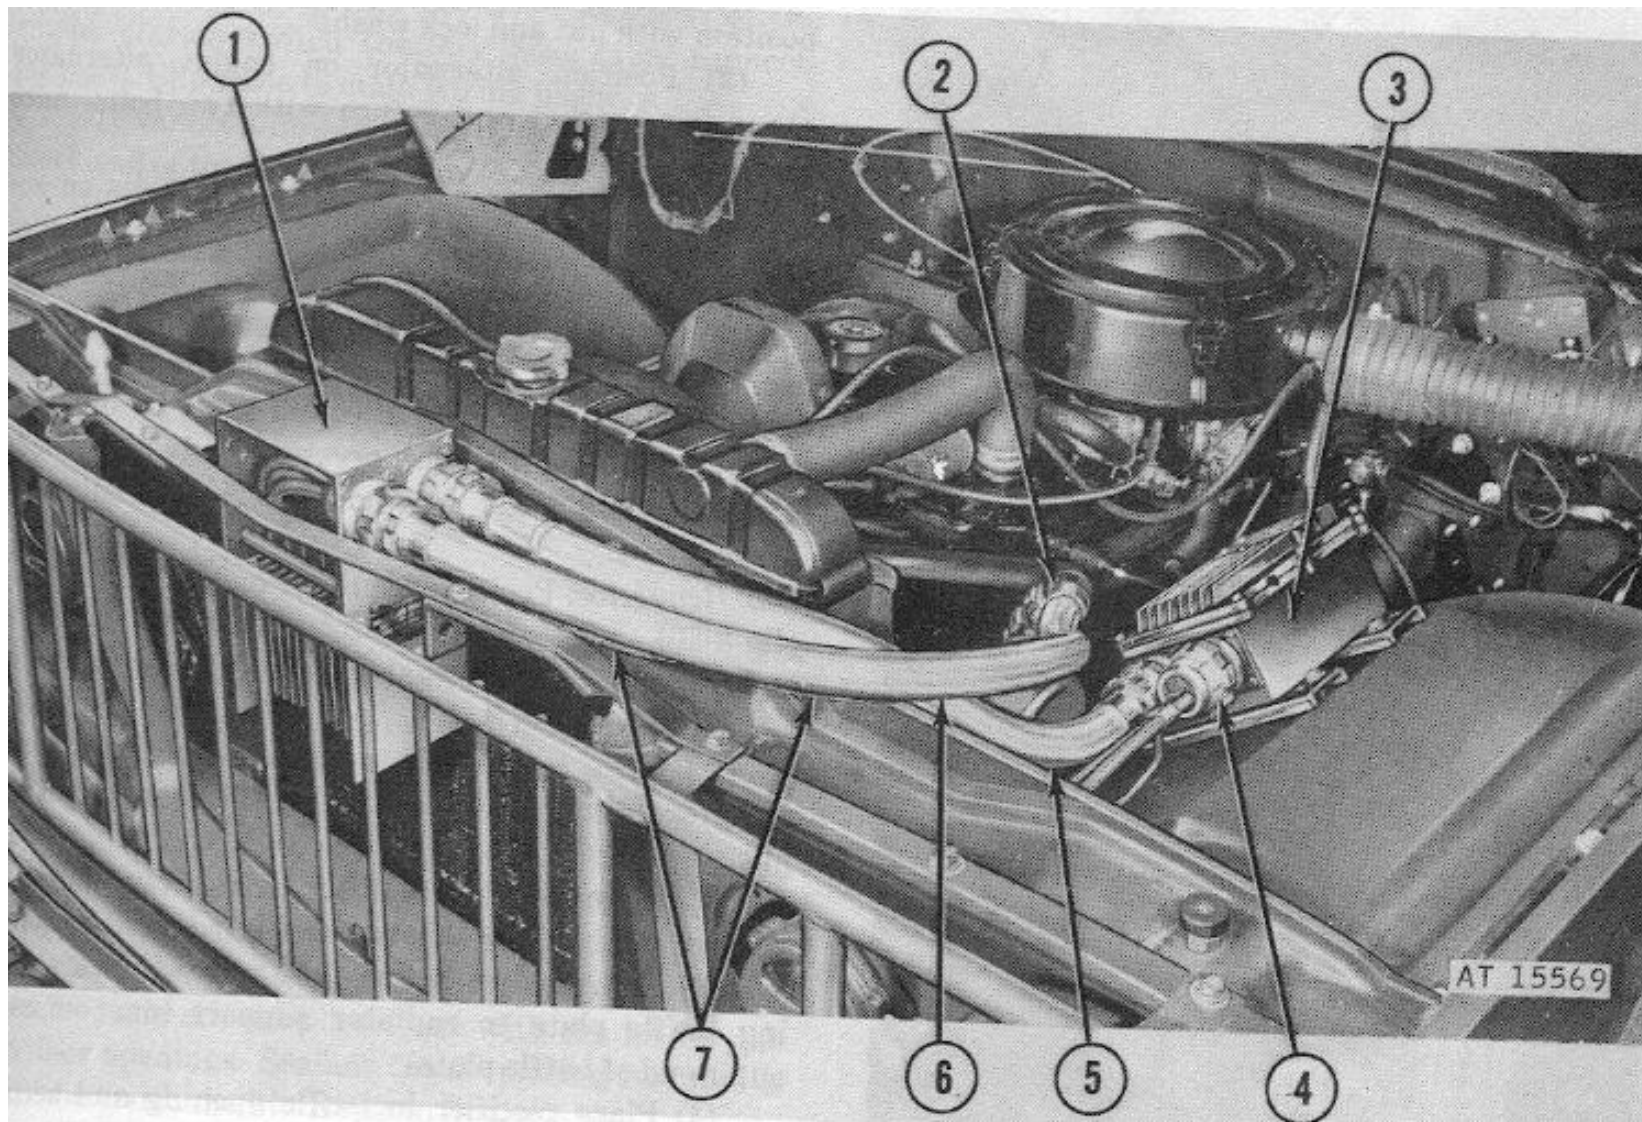

Figure 3-9. Wiring harnesses.
a. Wiring Harnesses, (Fig 3-9)
- (1) Disconnect battery ground cable from battery negative post.
- (2) Disconnect the long shielded wiring harness from the 100-ampere alternator and the rectifier. Remove shielded harness.
- (3) Disconnect the short shielded wiring harness from the rectifier and the regulator mounted on the fender apron. Remove shielded harness.
- (4) Remove the two pinch weld chafing strips from top left side of radiator upper front baffle.
- (5) Disconnect cable assembly connector from regulator; then disconnect the cables from the engine starter switch and the left front engine support. Disconnect vehicle cable lead from cable assembly at waterproof connector. Remove cable assembly.
- (5) Secure rectifier bracket to baffle with four 5/16-18 x 5/8-inch bolts, nuts and lock washers.
- (6) Working through radiator grille, place the rectifier to radiator baffle bracket assembly on rectifier mounting stud and while holding bracket tight to radiator baffle plate replace nut and washer previously removed from rectifier mounting stud to secure baffle bracket in support position.
d. Wiring Harness. (Fig 3-9 and 3-12)
- (1) Connect the shortest shielded wiring harness to the rectifier and regulator.
- (2) Connect the longest shielded wiring harness to the rectifier and 100-ampere alternator.
- (3) Place pinchweld chafing strips under shielded cables.
- (4) Secure cable assembly connector to regulator and connect shortest cable (ground) to right front engine support using existing bolt and nut. Place a lock washer under the cable terminal when connecting cable to engine support.